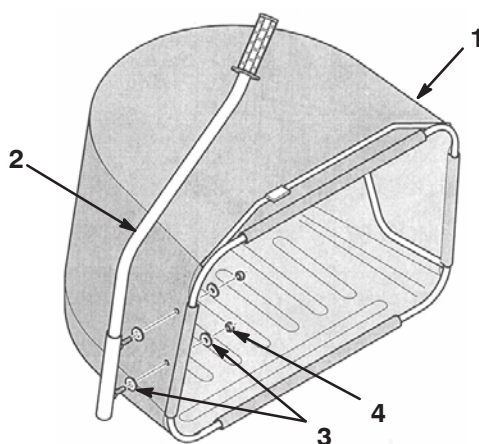

Figure 6
2. Secure the handle to the bag assembly with 4 washers (M9) and 2 locknuts (M8) (Fig. 6).